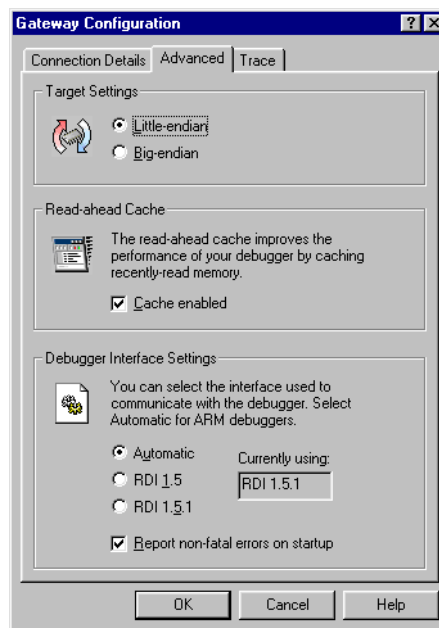

Figure B-17 Gateway Configuration dialog, Advanced tab
- a. Click **Advanced** to display the advanced configuration tab, as shown in Figure B-17 on page B-24.